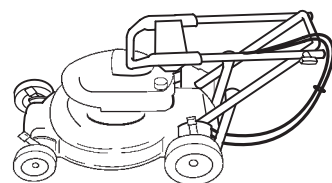

Figure 25
2. Carefully swing the upper handle section forward until it rests on the engine (Fig. 25).